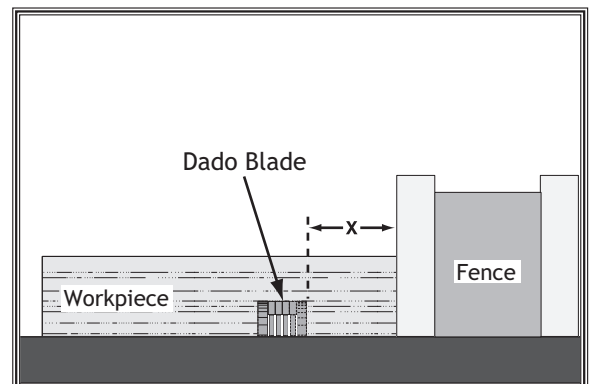

Figure 84. Illustration of a dado cut.
3. Adjust distance between fence and inside edge of the blade, as shown in **Figure 84**, to dado length of a workpiece.